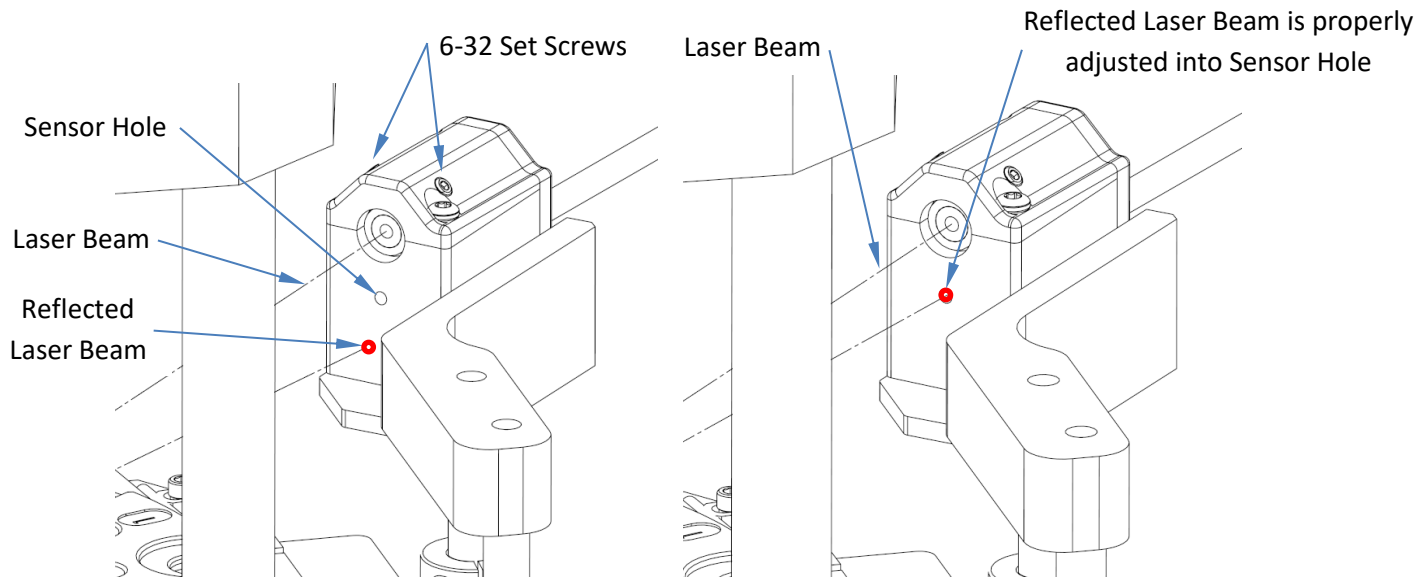

Figure 4: Reflected Laser Beam Adjustment
5. Next step is to align the laser so that the mirror reflects the laser beam back into the sensor. To adjust use **Adjustment Screws** (see Figure 4.) When you first power on the sensor look at the mirror to see where the laser beam is directed. Use a white card to help find the exact position if it is difficult to detect.